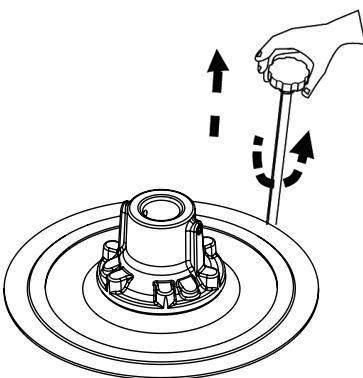

Fig. 10
1. Loose the follower plate bleeder and remove it (fig. 10).